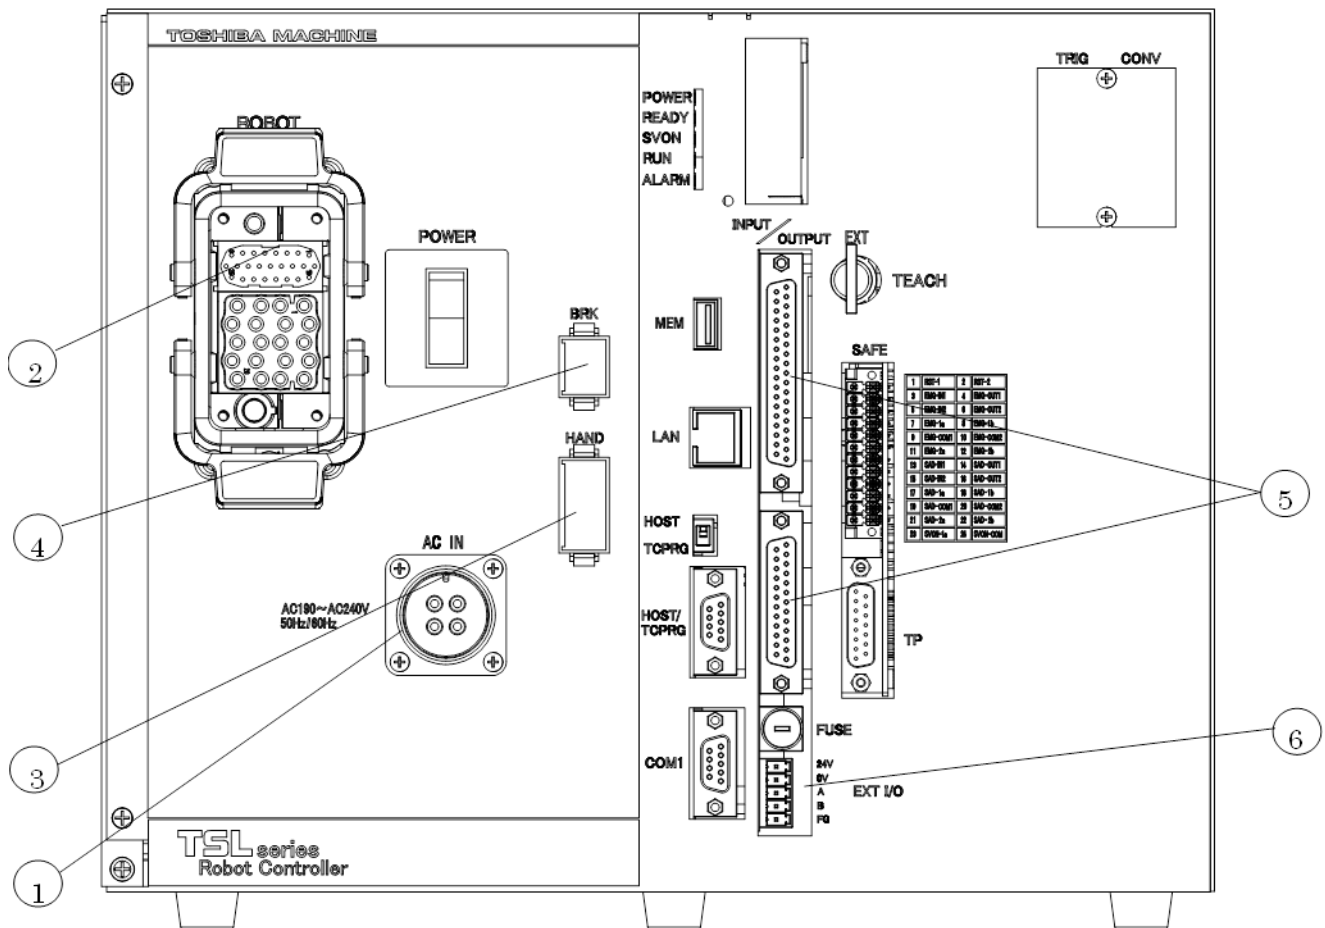
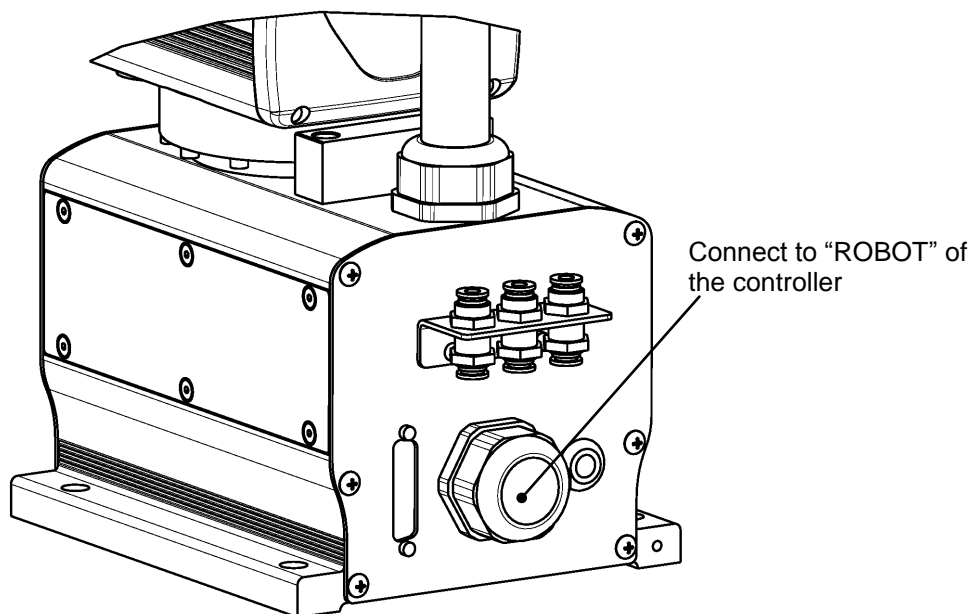

Fig. 14.1 Robot controller connector arrangement (TSL3000E)
Fig. 14.2 Robot side connector arrangement (TSL3000E)
The cables connected to the robot controller are shown in Fig. 14.1.
The power cable (“ACIN” (① of Fig. 14.1)) is used to supply the main AC power to the controller.
The motor cable connects the controller and robot, and supplies the power required to rotate the motor from the controller servo driver to each axis feed motor of the robot. The encoder cable is a signal line used to transmit a signal from the rotation angle detecting encoder of each robot axis to the controller. The motor cable connector and encoder connector are for ROBOT (② in Fig. 14.1). The motor cable and encoder cable on the robot side are located at Fig. 14.2. The cables and connectors for the motor cable and encoder cable are standard accessories.
The brake signal cable used to lock the motor shaft is connected to the connector BRK (④ in Fig. 14.1).
The robot control signal cable is connected to the connector "HAND" (③ of Fig. 14.1).
The brake cable and robot control signal cable on the robot side are located at Fig. 14.2. The cables and connectors for the brake cable and robot control signal cable are standard accessories.
Use the attached connector [ML-4000-CP-5PGY] to connect the power supply cable for external input/output ("EXT I/O" (⑥ in Fig. 14.1)). The P24V power is supplied from the front of the controller.